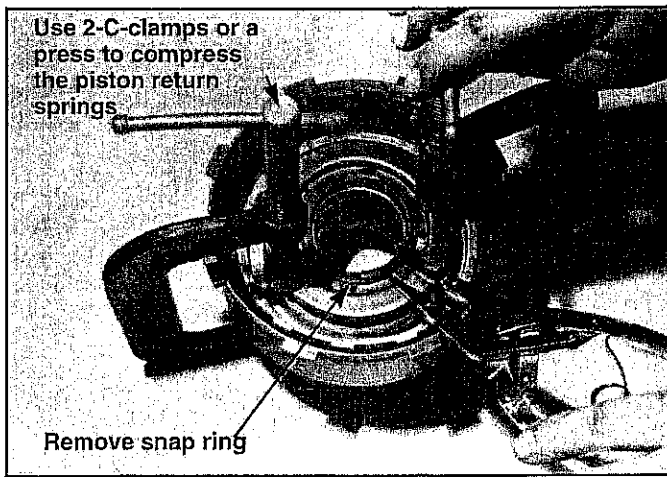

FIGURE 27
STEP 2. Place the drum in a press or use two C-clamps to compress the piston return springs and retainer. (See Fig. 27) Remove the retainer snap ring and relax tension on the retainer slowly. Another method is to reinstall the pressure plate and snap ring and use two flat blade screwdrivers. Place tips of screwdrivers under pressure plate on opposite sides and compress the springs. This will allow you to remove the snap ring with the snap ring pliers. This method may also be used for reassembly. Remove the retainer, seventeen return springs and direct clutch piston. Note the color code of the springs. (Note: Some late model units have the springs attached to the retainer. Do not try to remove them from their staked position.) Remove and discard two rubber lip seals from the piston and one rubber lip seal from the drum.